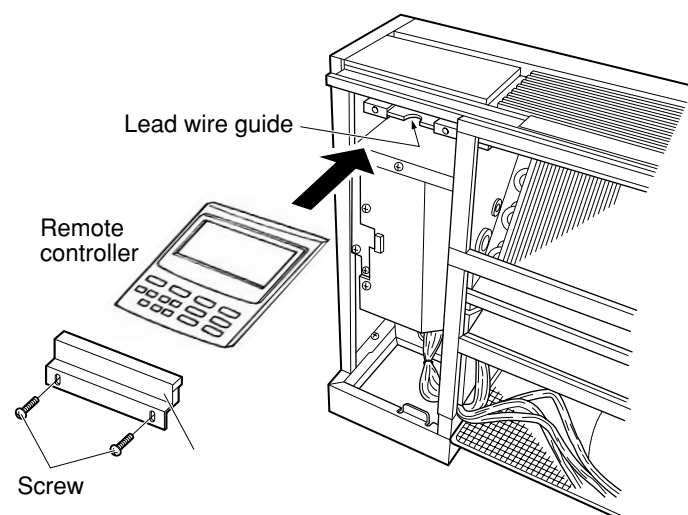

Fig. 3-115
- (2) Remove the front panel. Remove the screws and fixture. (Fig. 3-115)
- (3) Place the remote controller into the space in the unit as shown in Fig 3-115. Assemble the lead wires of the remote controller to its rear side center and route them to the lead wire guide.
- (4) Secure the fixture using the supplied screws.